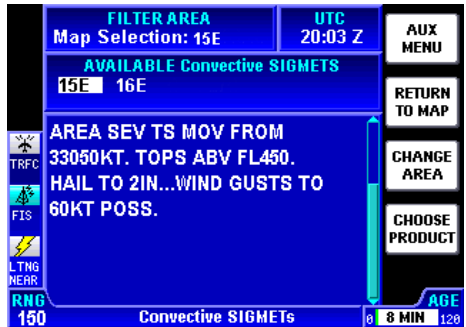

Figure 2-45
5. Press the **MORE INFO** Softkey to display the Text Convective SIGMET Page for the displayed location as in Figure 2-45.